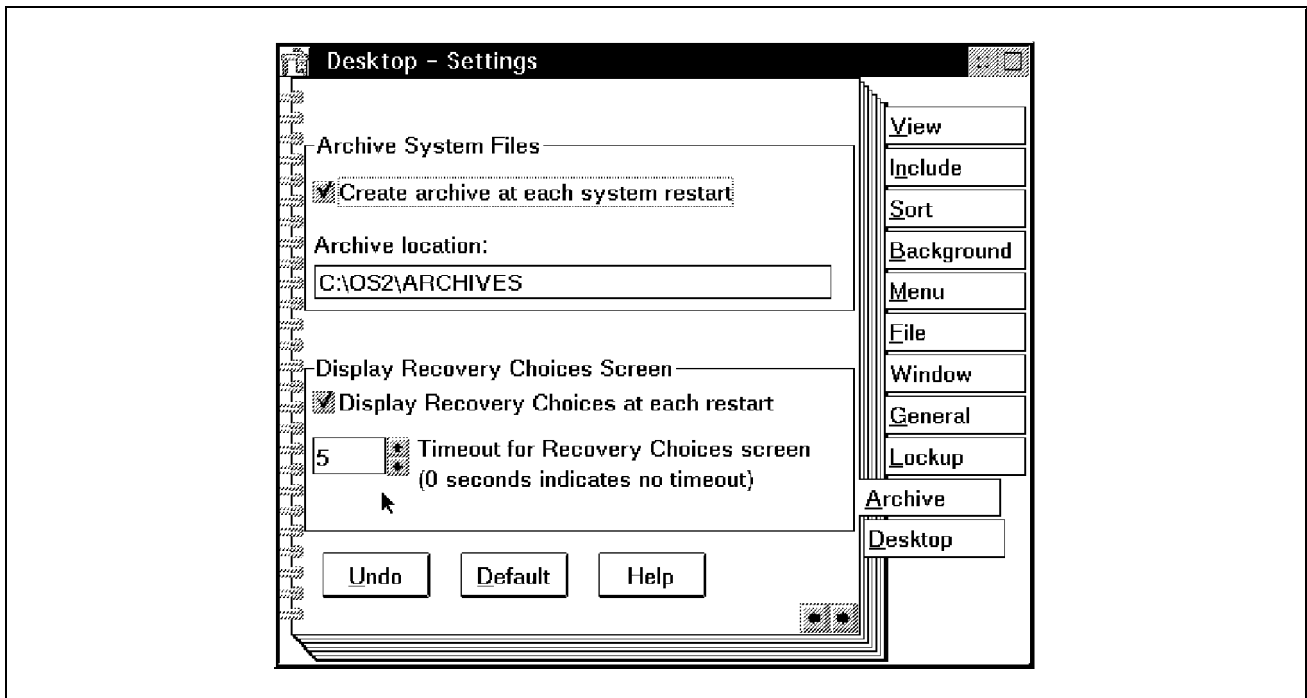

Figure 103. Display Recovery Choices at Each Restart
- c. Toggle on **Display Recovery Choices at each restart**. Set the time that you want the Recovery Choices screen to be displayed on startup. See Figure 103 on page 302. Toggling on the Display Recovery Choices button will display the Recovery Screen at each reboot.